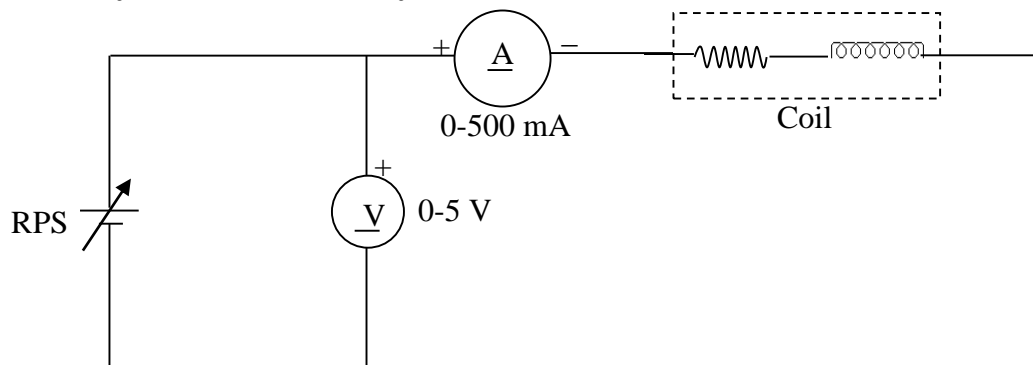
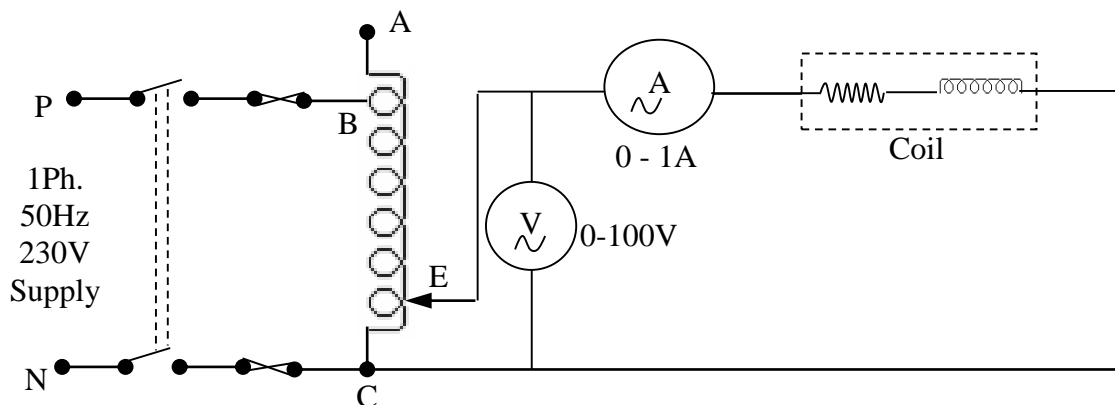

Fig. 1
Fig. 2
1. Connect the circuit as shown in Fig. 1.
3. Repeat the steps (1) & (2) with the second coil to determine its DC resistance ' R_2 '
4. Rig up the circuit as shown in Fig. 2 using coil-1.
7. Repeat the steps (4) to (6) with coil-2, to determine its self-inductance ' L_2 '.